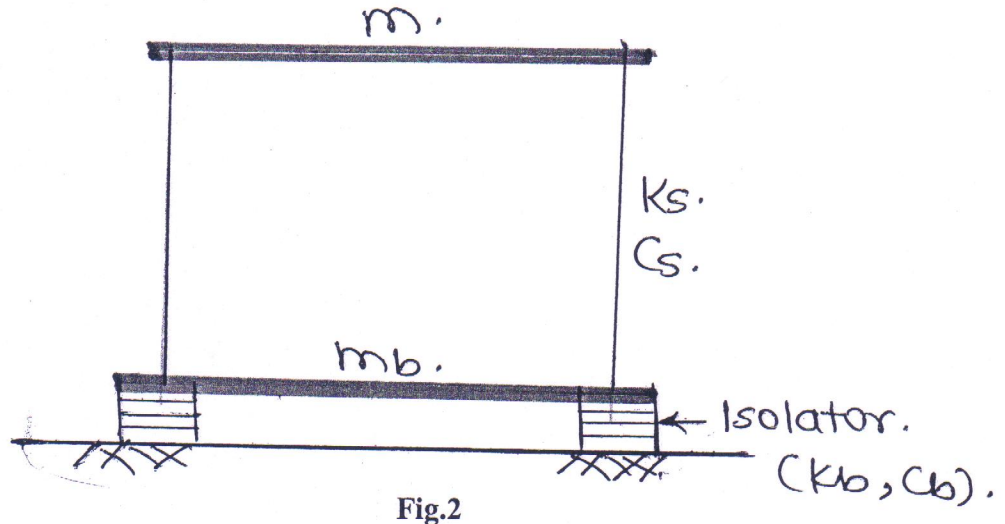

Fig.2
Q.5 The Fig. 2 shows a SDOF system with base isolation. The top RCC slab is supported on four columns. All columns are isolated at the base.